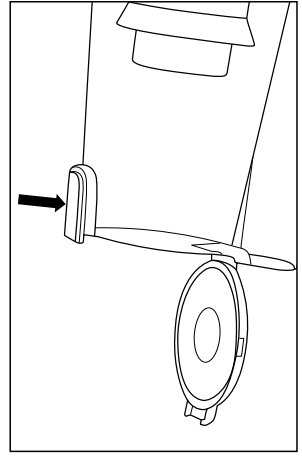

Fig. 1
2. While holding the vacuum over a trash can, push the release button at the bottom of the dust cup. The base of the dust cup will drop down, releasing the dirt (Fig. 1).